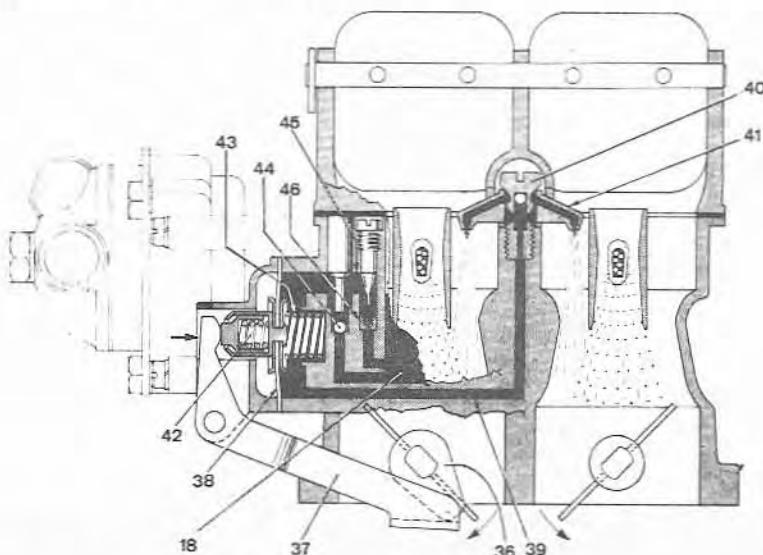

Fig. 9.7 Carburetor acceleration phase (Sec 3)
Injects into both venturis. Reference to Fig. 9.7 will show that when the throttle valves are closed, the accelerator pump diaphragm (38) draws fuel from the float chamber (18), through the ball valve (44) into the pump chamber. When the throttle valves are opened, the cam (36) moves the lever (37) and fuel is forced along the channel (39), through the delivery valve (40) and out of the pump jet (41). The spring (42) absorbs the initial movement of the lever (37) and prolongs the fuel delivery period. Excess fuel and any accumulated air is discharged into the float chamber (18) through the channel (45) and calibrated bush (46).